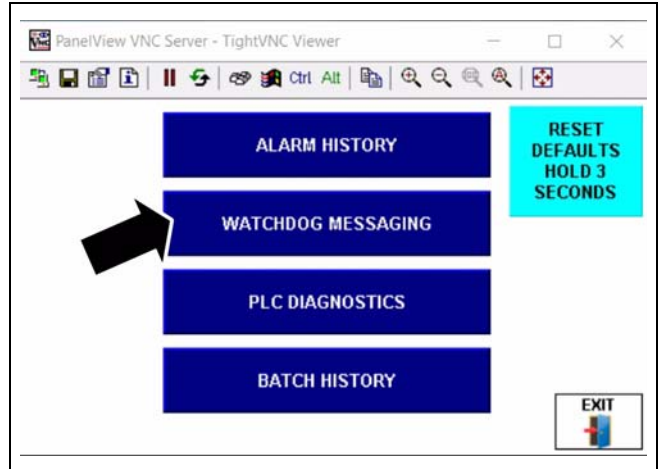

Figure 6B
1. Select Help/Info and then select WatchDog Messaging from the screen as shown in Figure 6B.